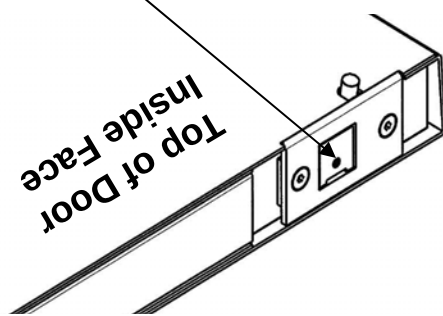

Fig. 1
- Fasten the Top Rod and Tube Assembly and Strike Plate to the top of door using (2) #12-24 by 1" Flat Head Cap Screws. See the Illustration below. Use a #8-32 screw threaded into the pusher to pull the Pusher out as far as it will go. (See Fig. 1 on Page 7)
- Check the position of the strike plate and pusher, the pusher must be out as far as it will go. (See Fig. 1)